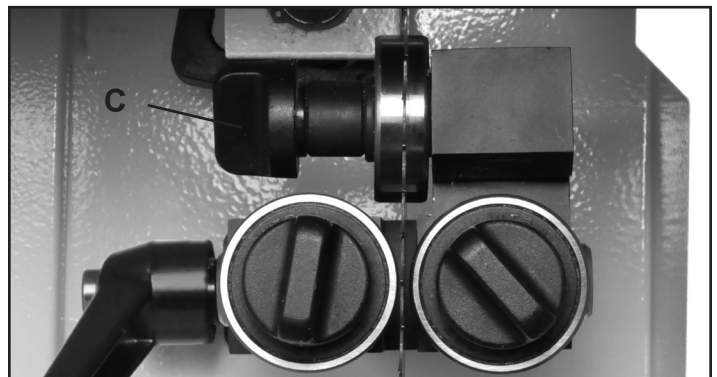

FIGURE 27 NOTE: Blade Guard removed for photo purposes
4. Adjust the rear bearing guide to be just clear of the back of the saw blade. Release the guide's Locking Handle (Fig. 27, C) and move the rear guide towards the blade by pushing the end of the Rear Guide Shaft (#49A). This shaft extends through the bottom frame for easy access. Tighten the handle when done.